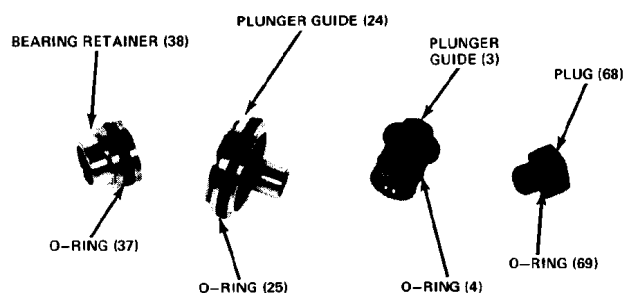

Figure 4-3. O-ring Assembly
8. Place O-rings on plunger guide (3 and 24), bearing retainer (38), plug (68), and input shaft (12). See Figure 4-3.
9. Use tool T93025 and press in new bearing (14) to a depth of 1.340 inches (34.04 mm) from face of housing bore to bearing.